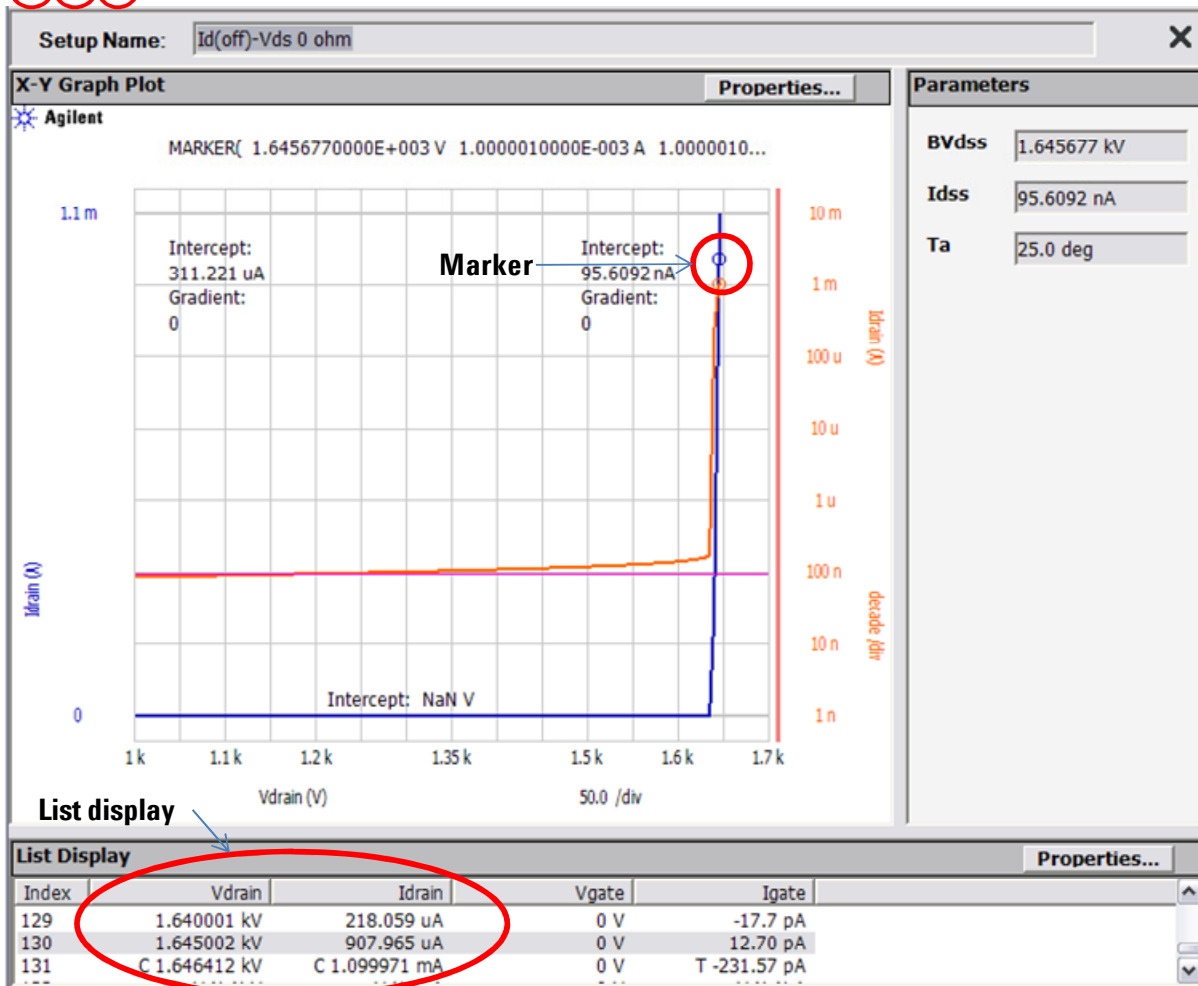

Figure 3-54. Idss and BVdss breakdown test without 100 kΩ.
Step 8. You can see the Id-Vds curve with extracted Idss and BVdss in figure 3-54.
Figure 3-54 plots linear drain current Idrain in Y1 axis and log Idrain in Y2 axis versus drain voltage Vdrain in X axis. Horizontal line is drawn at Idss and Marker is automatically positioned to the BVgss point using the interpolation method.